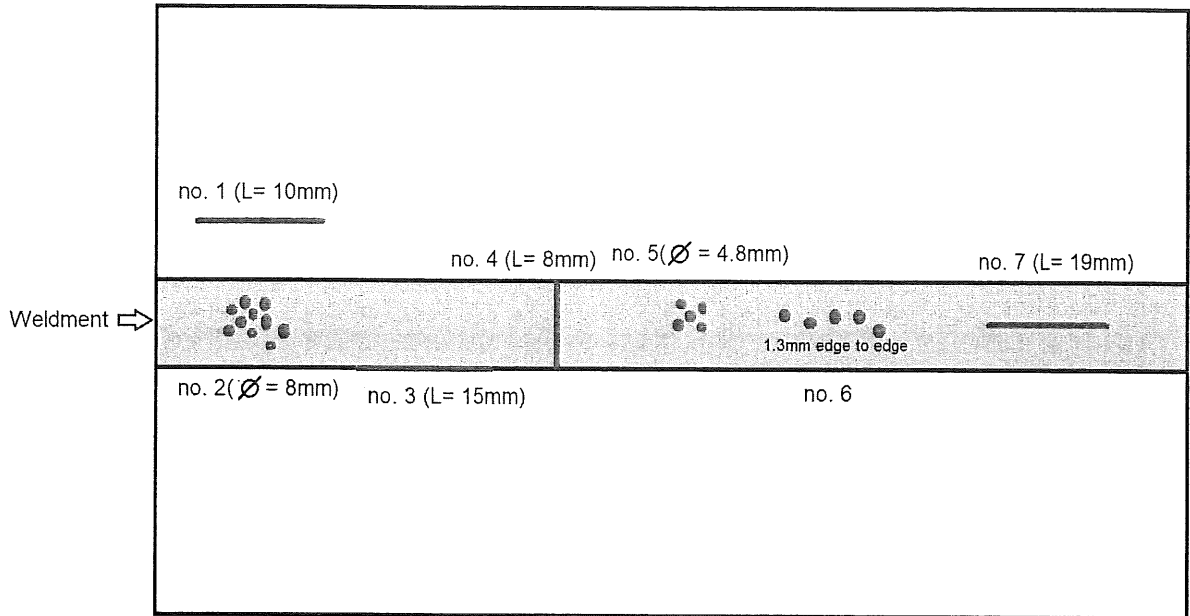

Figure 1
- c) Refer to **figure 1**, state the defects name for number 1 to 7. (8 marks)
- d) Evaluate the following defects in **figure 1** as per Acceptance/Rejection criteria for ASME B31.3, Liquid Penetrant Examination: